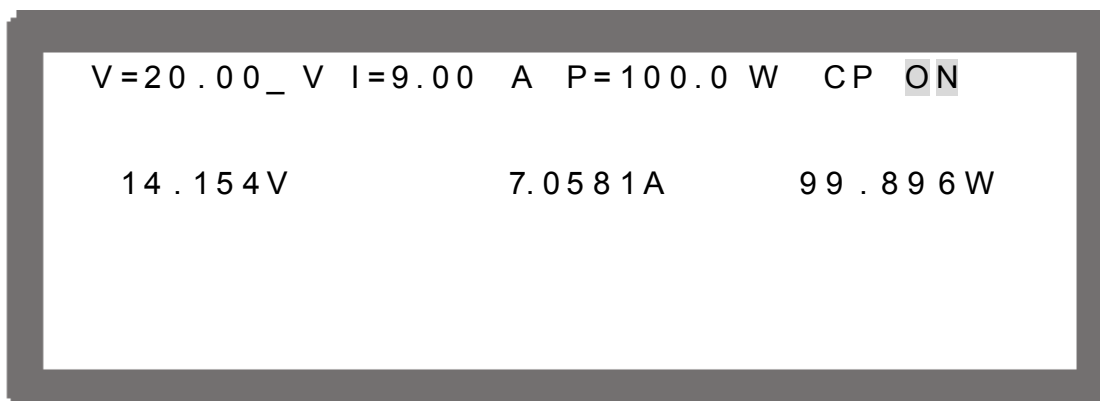

Figure 4-26
1. Press “VOLTAGE” to set the output voltage. The cursor after the V value on the MAIN PAGE will blink as Figure 4-26 shows.